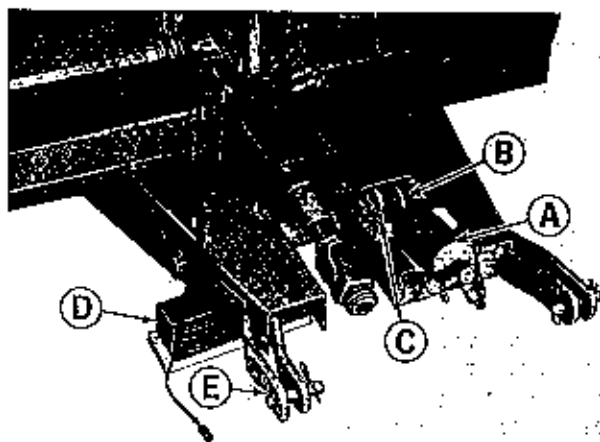

Figure 5. Snow thrower ready for mounting on tractor
6. See figure 5. If it is not already in position install the hydraulic cylinder (A) as shown in figure 5, using pin (B) and spring clip (C). If the standard hydraulic cylinder which operates the tractor lift system is to be used.
7. See figure 5. Position the snow thrower so it is on a level surface and place a block (D) under the frame assembly so the mounting holes (E) are the same height as the holes in the hitch assembly which has been mounted on the tractor. A block 3-1/2 inches high will give about the right height.
6. See figure 5. Place a block (D) under the frame of the snow thrower as shown.